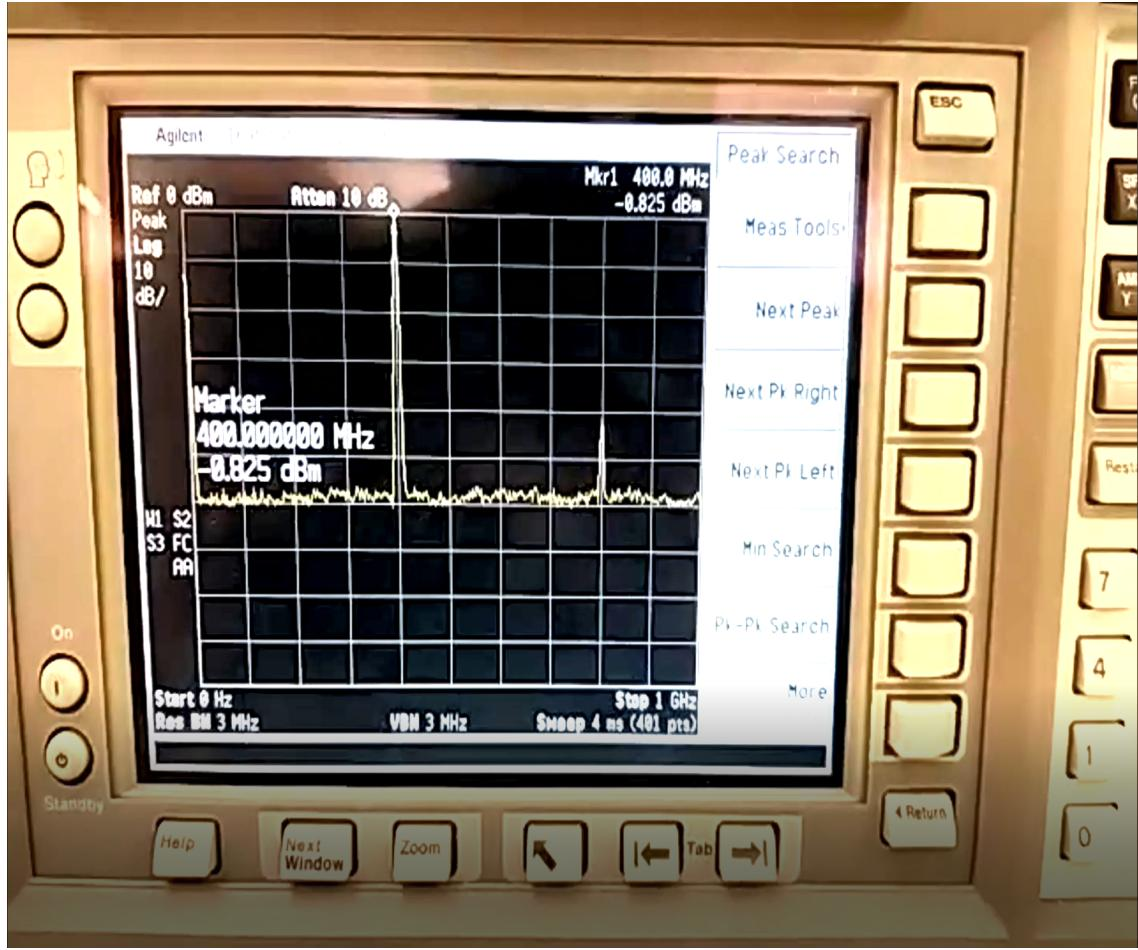

Fig. 12. The 399.95MHz 0dBm CLK signal generated by the WindFreak frequency synthesizer, fed in as the reference signal to the PN-sequence generator at the Rx
- Power this WindFreak frequency synthesizer using a USB battery bank and connect its "RFout" port to a spectrum analyzer (start frequency set to 0Hz, stop frequency set to 1GHz), and observe a 399.95MHz 0dBm signal on the spectrum analyzer -- as depicted in Fig. 12.